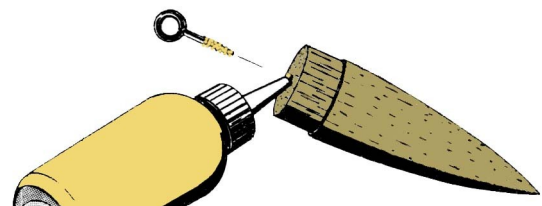

Figure 4
- **Step 7** As shown in Fig. 4, thread the screw eye into the base of the nose cone. Remove the screw eye and force glue into the hole. Coat the threads of the screw eye with glue and reinsert. Do not wipe away the excess glue. Allow the glue to dry with the cone pointing downward.